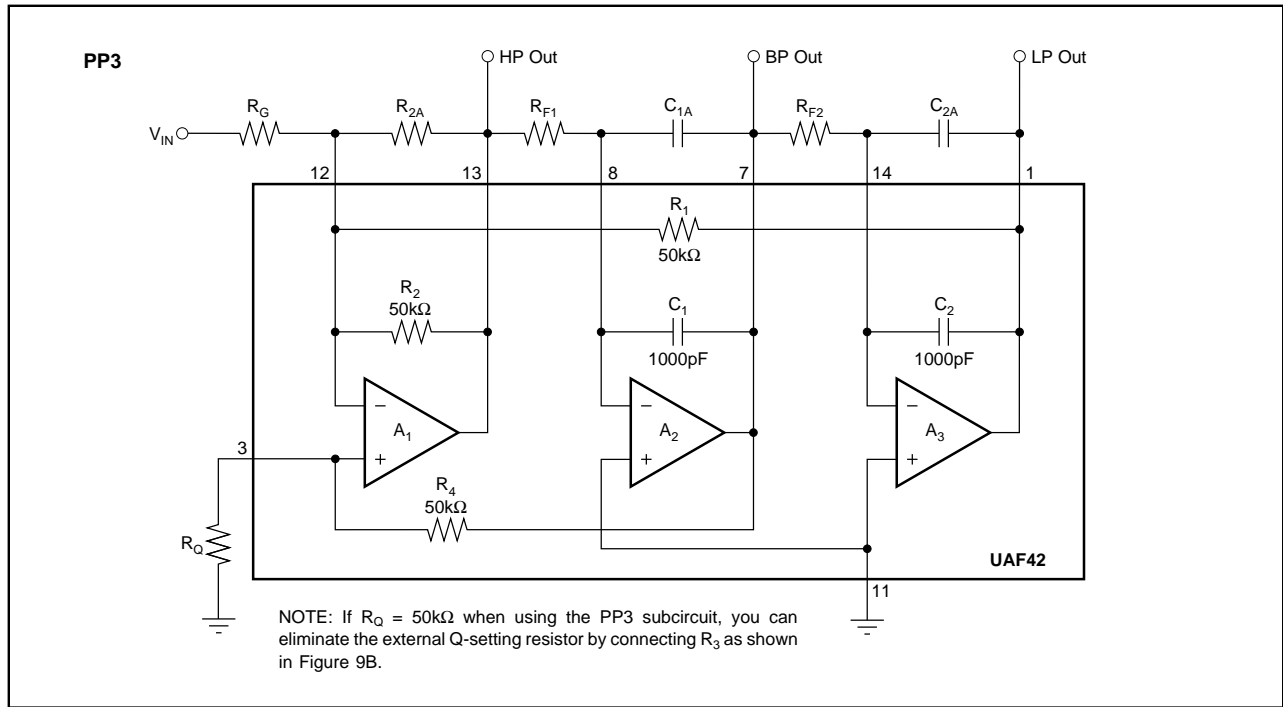

FIGURE 9A. PP3 Inverting Pole-Pair Subcircuit.
**PP3** (Inverting pole-pair subcircuit)—See Figure 9A. In the automatic topology selection mode, this configuration is used for the all-pole low-pass and high-pass filter responses. This configuration requires an external gain-set resistor,  $R_G$ . With  $R_G = 50\text{k}\Omega$ , low-pass and high-pass gain are unity.